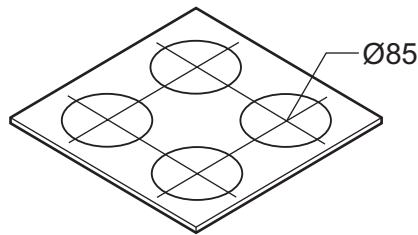

Fig. 7
- (c) Fig. 7 shows the acrylic support with the holes marked out ready to be cut out.